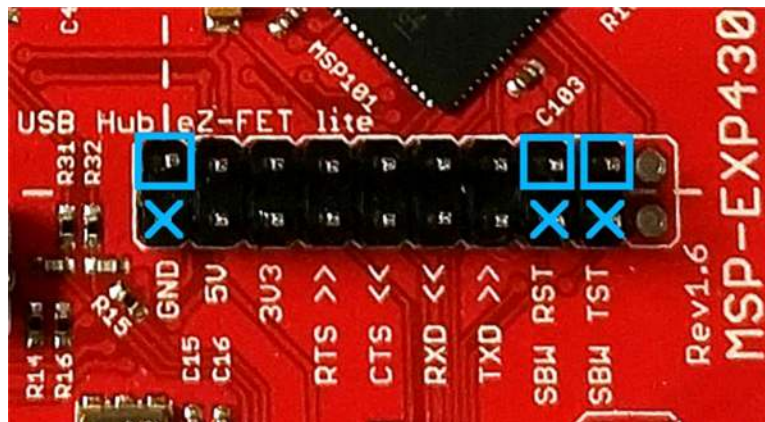

Figure 6. MSP430 Launchpad Spy-Bi-Wire Connection Points
- On the eZ-FET side of the Isolation Jumper Block, place Spy-Bi-Wire on the pins for RST, TST, and GND, as highlighted in Figure 6